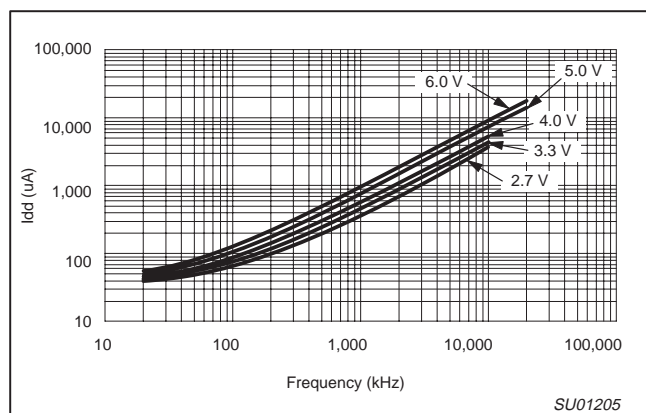

Figure 47. Typical Active Idd versus frequency (external clock, 25°C, LPEP=0)
1. Total Idd at sum of oscillator current and active or idle current shown in Figures 47, 48, 49 or 50 as appropriate